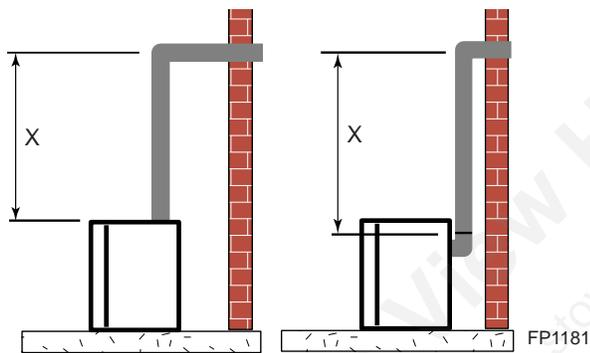

Figure 37 –
Place fireplace into position. Measure the vertical height (X) required from the base of the flue collars to the center of the wall opening. *Figure 37*